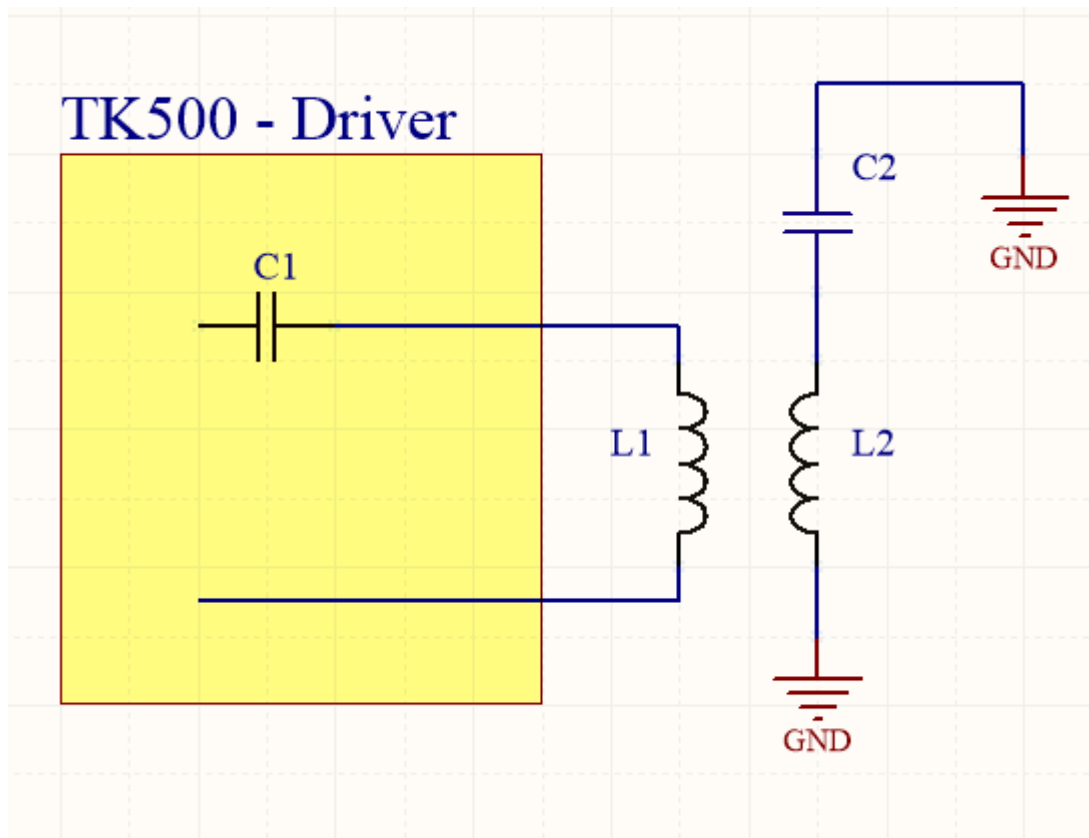

Figure 3: Coil rig schematic
The tesla out connector connects to the coil rig. The coil rig schematic is shown in fig. 3. C1 is physically small and contained inside the driver enclosure. L1 is physically large and encloses L2 with a large air gap in between. L2 is physically large and contains significantly more windings than L1 (typ. 1000 times more). C2 is a capacitor consisting of the top load, and the environment around the top load. One plate can i.e. be a steel sphere, and the other plate can be the walls, roof, and floor of the room. Or something closer like a chain mail glove. The relationships between C1, L1, L2, C2 is given by eq. (1) and eq. (1).  $f_0$  should be around  $120kHz$ .